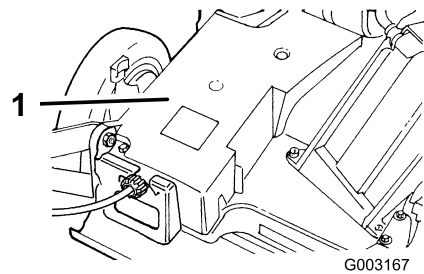

Figure 37
2. Remove the bolts that secure the belt cover (Figure 37) to the lawn mower housing.